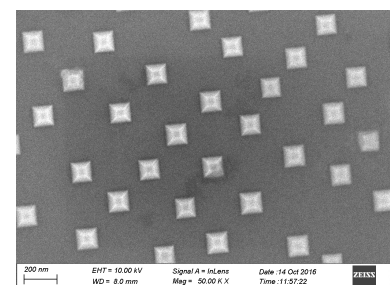

Figure 4.1: Si-Ge islands on a Si substrate, see Sec. 1 for an explanation.
- Bring the magnification back down to 50k; your image should now be as sharp as it gets; see Figure 4.1